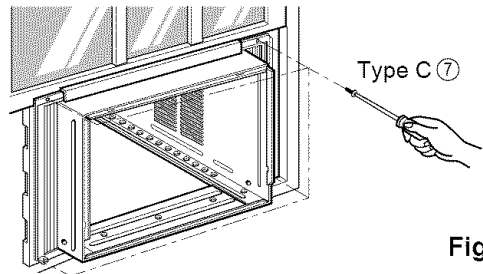

Fig. 6
9. Attach each Frame Curtain ① to the window sash using screws ⑦ (Type C). (See Fig. 6)